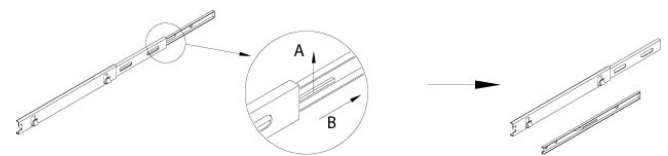
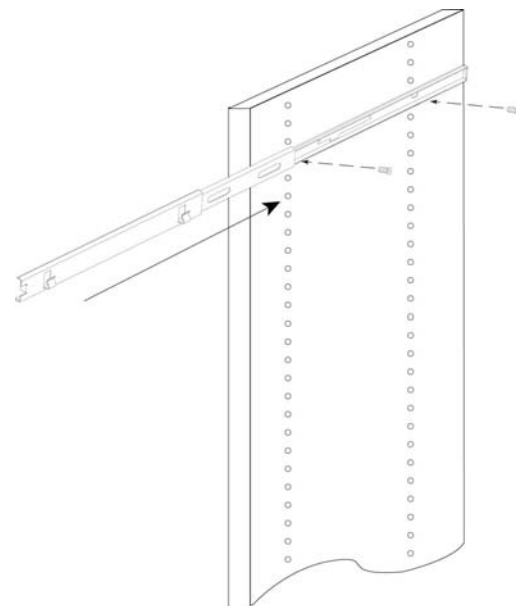

Fig. 2
Fig. 3
1. To install slides, first pull black plastic fitting up (Fig. 2 "A") to release inner slide from extension slides. Second, remove inner slide (Fig. 2 "B") and attach it to the partition using two (2) Euro screws per slide (See Fig. 3.)
2. Reattach extensions onto inner slides. (See Fig. 3.)